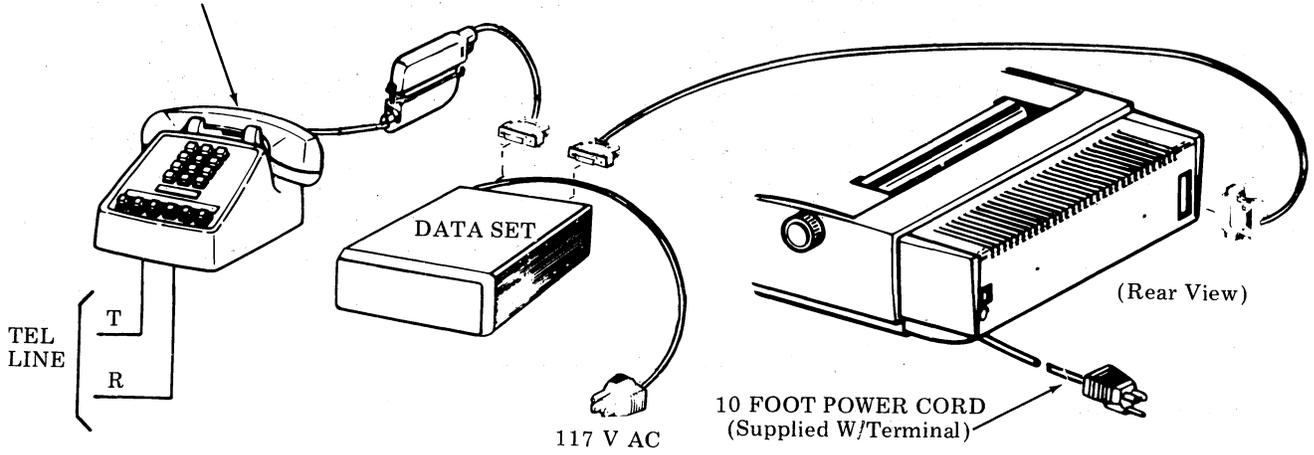

Fig. 5 Data Set Connection (Set W/TAU or TAU1)
5.13 The connection to the data set and telephone (if required) should be performed following the instructions for the particular data set involved (Fig. 5).